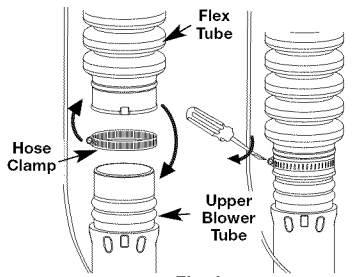

Fig. 2
1. Place a hose clamp over the other end of the flex tube (Fig. 2).
2. Slide the end of the hose with the clamp on it over the top end of the upper blower tube and tighten the screw on the hose clamp (Fig. 2).